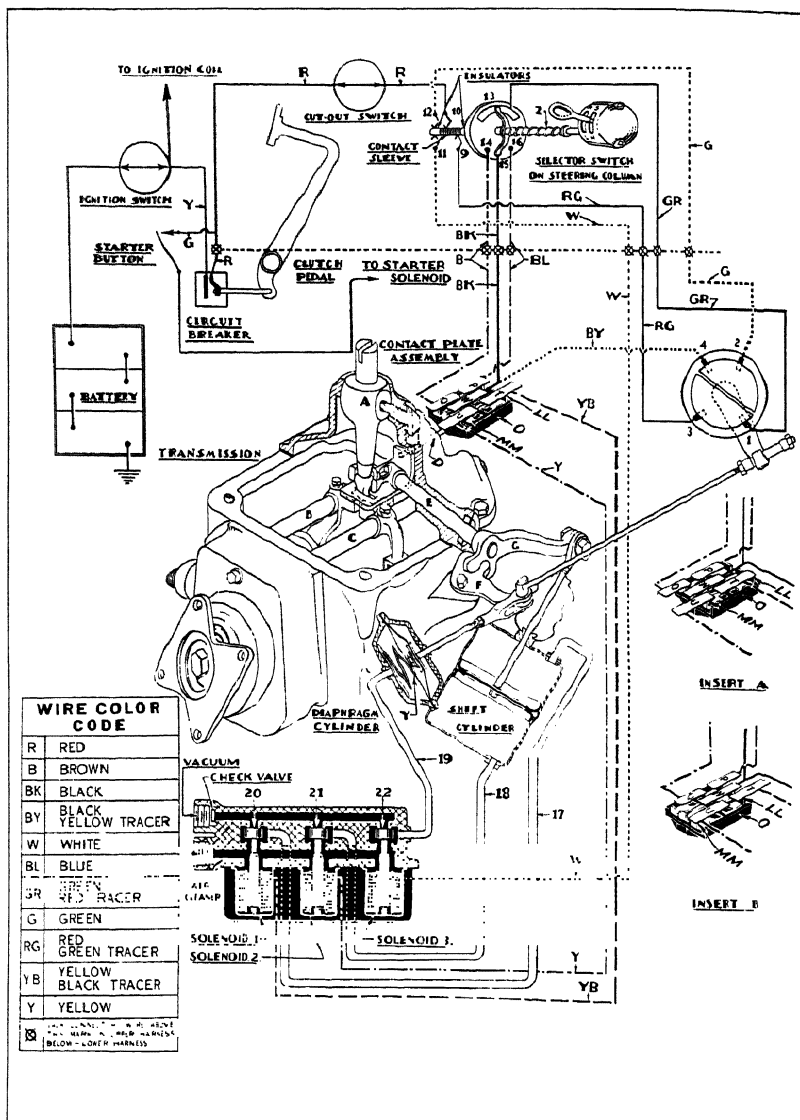

Fig. 6.—THE ELECTRIC HAND (1935-36 MODELS)—SELECTOR IN NEUTRAL POSITION
A contact plate on the earlier models opens the circuit after the gear change has been completed. This switch is controlled by a rod connected to the bottom of the changing lever (*A*) (Fig. 6).
The power cylinder has a vacuum-operated piston which provides the power for the forward and rearward movement for changing the gears. When the valve (21) (Fig. 6) in the vacuum line to the rear of the power cylinder is drawn down by its solenoid, opening the vacuum line, the piston moves backward. When the valve (20) in the vacuum line to the front of the power cylinder is drawn down by its solenoid, the piston moves forward. The movement of the piston is transmitted to the changing lever (*A*) through the control cross-shaft (*E*) and inner and outer levers.
The cross-change cylinder is of the diaphragm type. A spring (*F*) (Fig. 6) in the cylinder presses the diaphragm forward, which, through connecting linkage (*F*, *G*, *E*), holds the change lever (*A*) of the transmission engaged with the high- and second-speed change-rail fork (*B*)
(Fig. 6). When the valve (22) connected to the cross-change cylinder is drawn down by its solenoid, the diaphragm moves backward, pulling the bellcrank (*F*) which moves the control shaft (*E*) to the right to engage the lower end of the change lever (*A*) with the low and reverse change-rail fork (*C*). This position is shown in Fig. 7.
Fig. 6 shows the selector in neutral, with the lever held to the right by the spring (*Z*). The gears are also in neutral, and the lower end of the change lever (*A*) is held to the right by the spring (*Y*) in the diaphragm cylinder, so that it is engaged in the notch of the high and intermediate change fork (*B*).
Fig. 7 shows the same condition as in Fig. 6, except the selector lever has been pushed to the left but is still in the neutral position. It will be noted that the circuit from (10) in the selector switch is now completed through the contact sleeve to both (11) and (12).
The circuit from (12) is to (2) and (1) on the interlock switch, to (13) to (15) on the selector switch to bar (*W*) on the contact plate. Now, following the same procedure as under Fig. 6 it will be seen that, if the gearbox were in low gear, the contact plate would be in the position of Insert A (same as for high gear), energising solenoid (2) and the change would be to neutral. If the gear were in reverse, the contact plate would be in the position of Insert B (same as for second gear), energising solenoid (1) and the shift would be to neutral.
Referring again to Fig. 6, it will be seen that if the selector lever is moved to the high-gear position (transmission in neutral), the circuit will be completed as before to (13) on the selector switch, then to (16) to (*P*) on the contact plate through the fingers (*LL*) to (*T*) to solenoid 1, and the change rail (*B*) will be moved forward until the contact plate reaches the position of Insert A when the fingers (*LL*) will move off bar (*P*), opening the circuit.